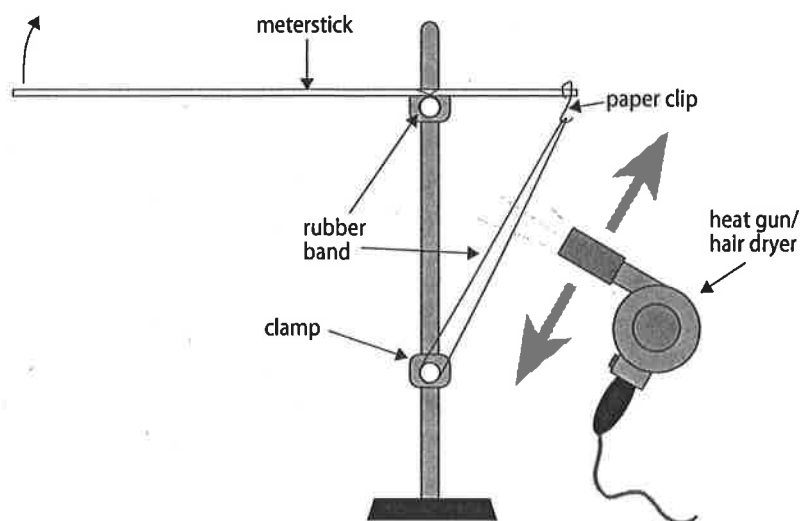

Figure 1: Heating the rubber band with a heat gun or hair dryer
- 3 Heat the entire rubber band by moving a hair dryer or heat gun up and down the length of the rubber band, as shown in Figure 1.
- Using a ring stand, clamps, meterstick, paper clip, and rubber bands, assemble the lever apparatus shown in Figure 1. Unbend the paper clip so that one end hooks securely into the hole in the meterstick and the other end hooks into an end of the rubber band. The meterstick should freely pivot on a cylindrical part of the upper clamp. You should have about 15 cm (6 inches) of the meterstick on the rubber band side. The pull of the rubber band can be adjusted by moving the lower clamp until the meterstick is approximately horizontal. Use the other rubber band to lightly secure the meterstick to the upper clamp, but be sure that the meterstick can freely pivot as a lever.